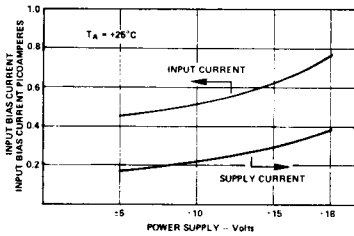

Figure 7. Input Bias Current and Supply Current Versus Supply Voltage
2. The heat dissipation can be reduced initially by careful investigation of the application. First, if possible, reduce the required power supplies, since internal power consumption contributes the largest component of self-heating. The effects of this are shown in Figure 7, which shows typical input bias current and quiescent current versus supply voltage.